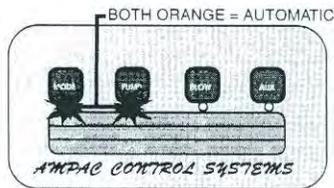

fig 3: Automatic mode
- 4/ The control automatically starts in demand heat mode. The switch Mode light should be orange (fig 3).
The mode function switch controls the operation of the pump and heater and selects between automatic/clock and manual modes. When in the automatic mode (default start up condition) the lamp shows orange (fig 3). The time clock will automatically turn the system on and off at preset times. (See time clock setting instructions - page 5)
This allows the pump to be operated manually at any time by pushing the pump on/off switch providing the Mode switch is in the manual position (fig 4). If the lamp is showing orange the Pump switch is locked out by the Mode automatic function (fig 3).
The time clock is used to regulate the operating times of the pool equipment. This function is used to turn all operations of the pool to standby or sleep mode. The clock is only effective in the auto mode (fig 3). Any functions left on like the pool light or blower will be terminated when controller goes to sleep. When clock allows controller to run again, pump and heating will resume however the light and blower will remain off until their switches are pressed again.